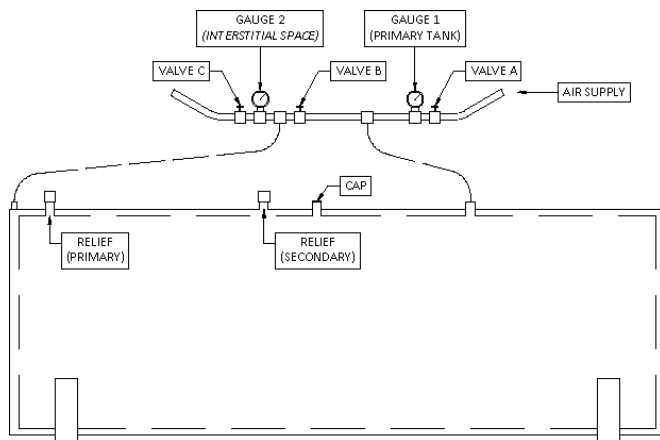

FIGURE 3.3.8
- 3.4.3 Install test piping as shown in Figure 3.3.8. Temporarily plug, cap, or seal off remaining tank openings to hold pressure.
- 3.4.4 Connect regulated test air supply line to test piping as shown in Figure 3.3.8.